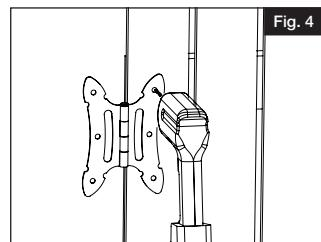

Fig. 4
- Drill 7/32" pilot hole in gate (Fig. 4).